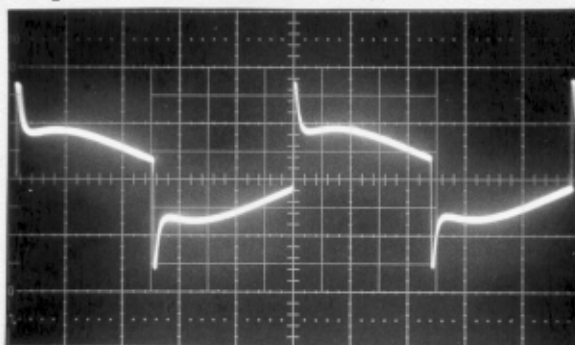
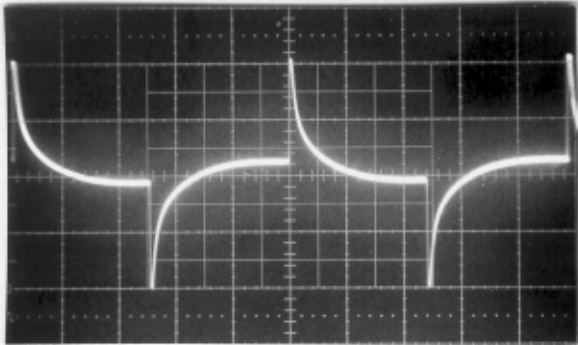

Fig. 8. Bass to 10.
Fig. 9. Bass to 0.
- D) Bass to 10-Fig.8 bass to 0-Fig.9.